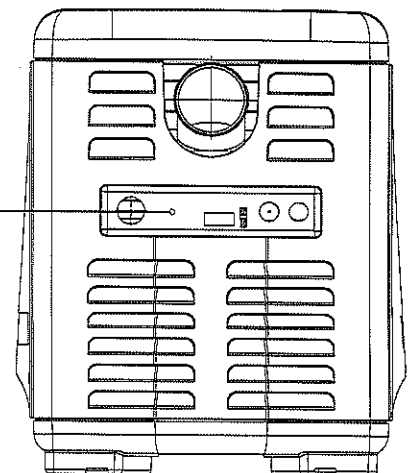

Figure 32.
2. Locate the small hole in the exhaust panel, for the RS-485 cable. Use an appropriate size drill bit for the flexible conduit or strain relief to be used in the exhaust panel to drill a hole for the RS-485 wires. See Figure 32.